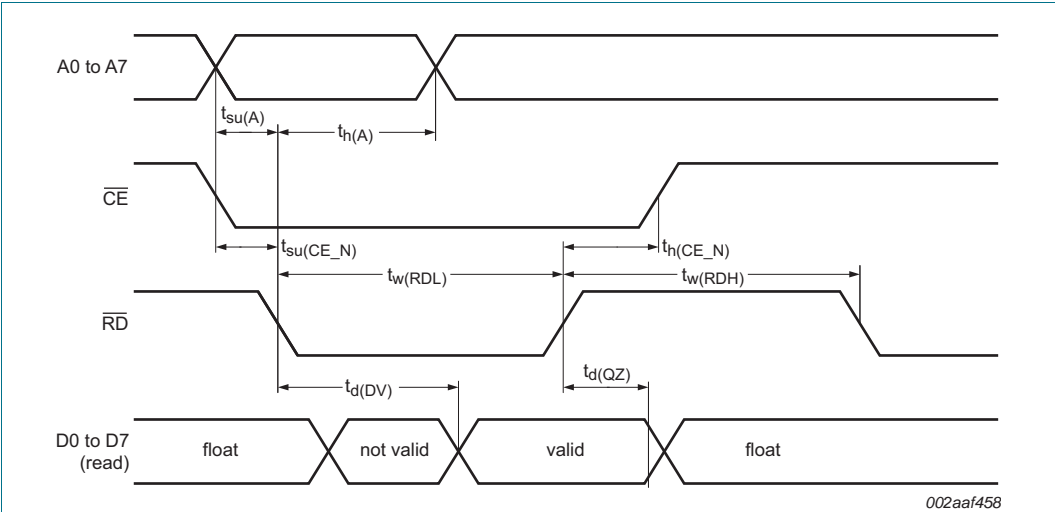

Fig 27. Bus timing (read cycle)
| Bus timing (see <a href="#">Figure 27</a> and <a href="#">Figure 29</a> ) |   |  |            |     |     |      |
- [2] All voltage measurements are referenced to ground ( $V_{SS}$ ). For testing, all inputs swing between 0 V and 3.0 V with a transition time of 5 ns maximum. All time measurements are referenced at input voltages of 1.5 V and output voltages shown in Figure 27 and Figure 29.